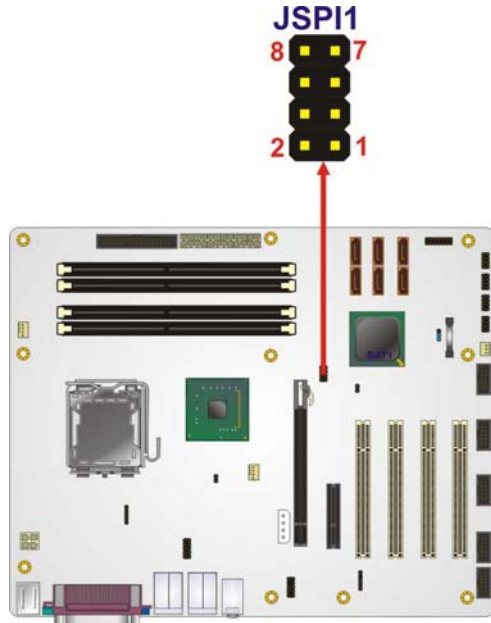

Figure 3-17: SPI Flash Connector Pinouts
- CN Location:** See Figure 3-17